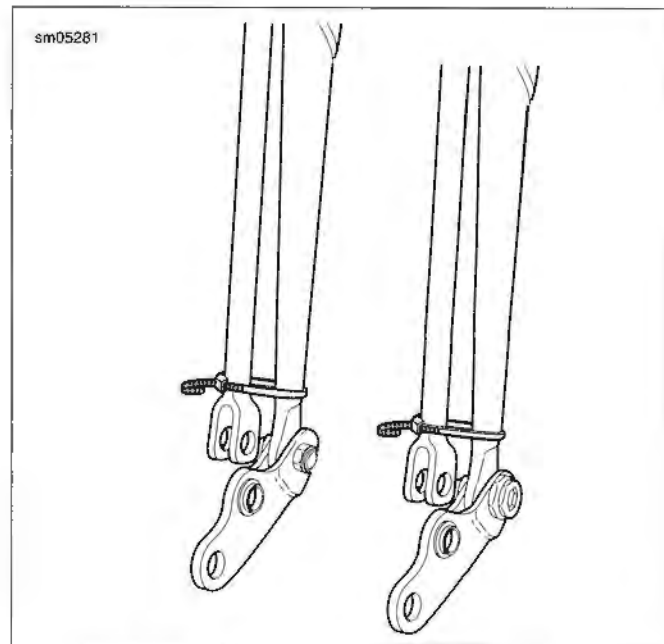
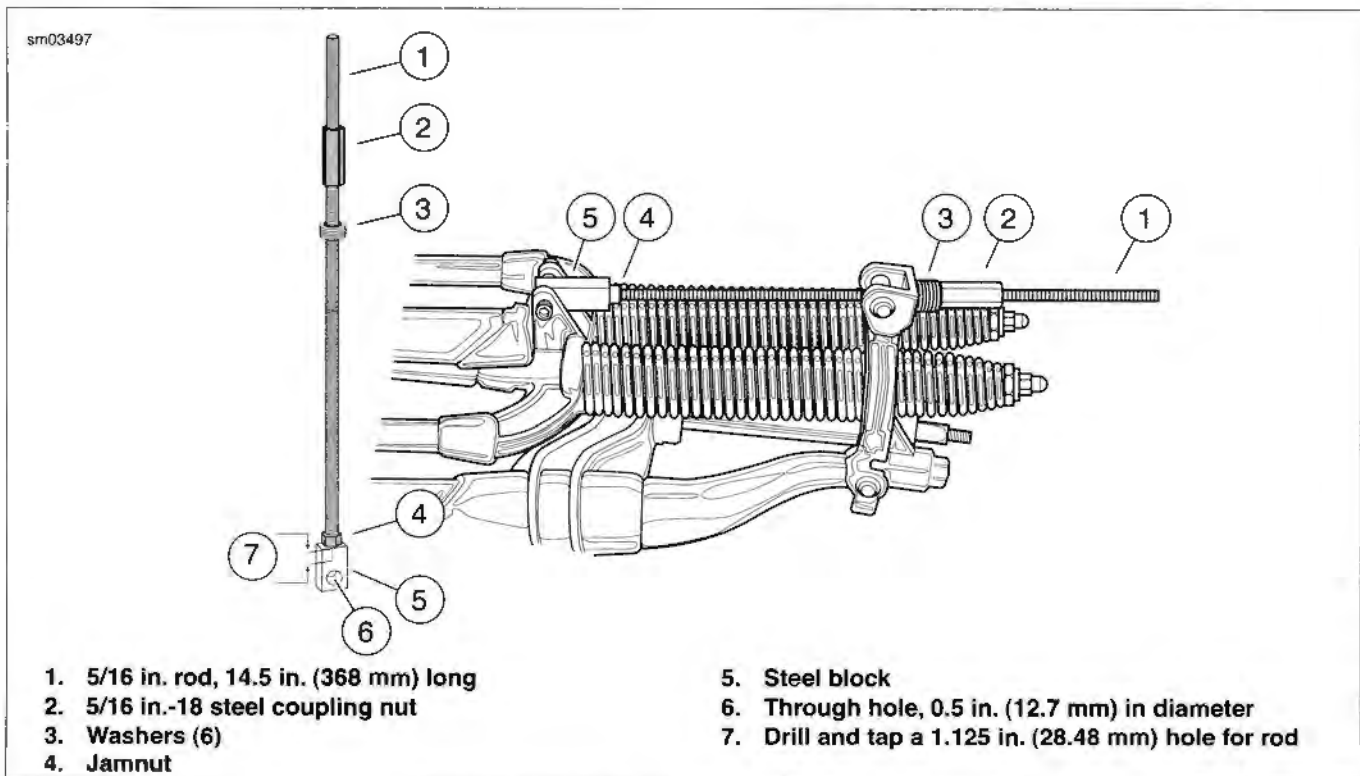

Figure 2-69. Nylon Ties on Fork Legs
Figure 2-70. Fork Spring Compression Tool
2. See Figure 2-70. Make a spring fork compression tool as shown.
- a. Slide rod, without steel coupling nut (2) and washers (3), into the hole above the upper shock eye mount.
3. See Figure 2-69. Use cable ties to secure the fork legs in place as shown.